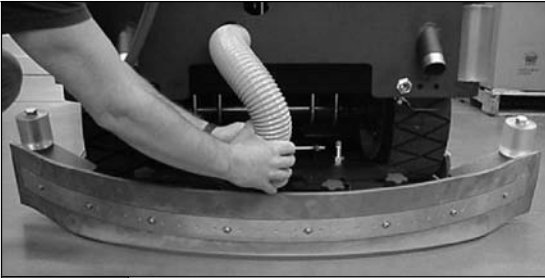

FIGURE 15.
2. THIS SQUEEGEE IS ADJUSTED TOO FAR BACK AND WILL NOT PICK UP ON THE CORNERS. *NOTE TIPS OFF THE FLOOR. (SEE FIGURE 15.)